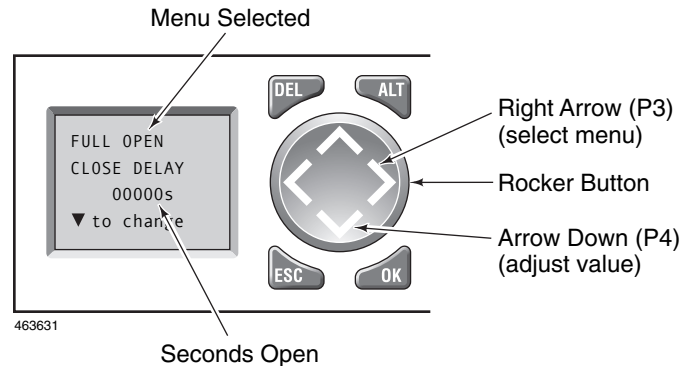

Figure 39
1. Using the Rocker button, press Right Arrow (P3) until the desired menu is selected (FULL OPEN or PARTIAL OPEN). See Figure 39.